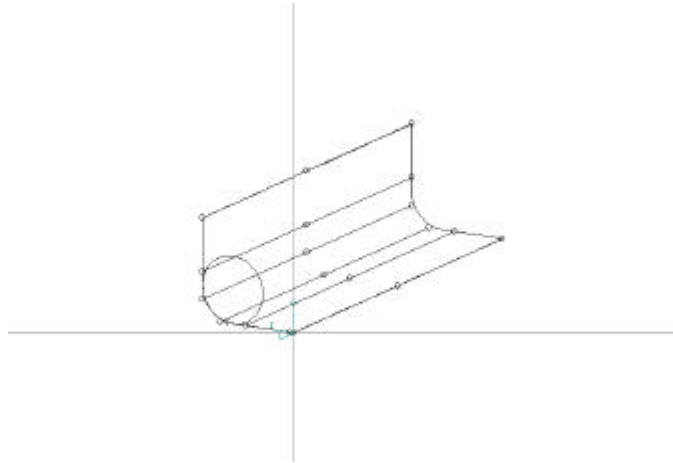

Figure 2-7: The Foreship Surface
**Note:** This creates a surface with three columns, as specified, and six rows copied from the six vertices on Midship Curve. (See Figure 2-7.)